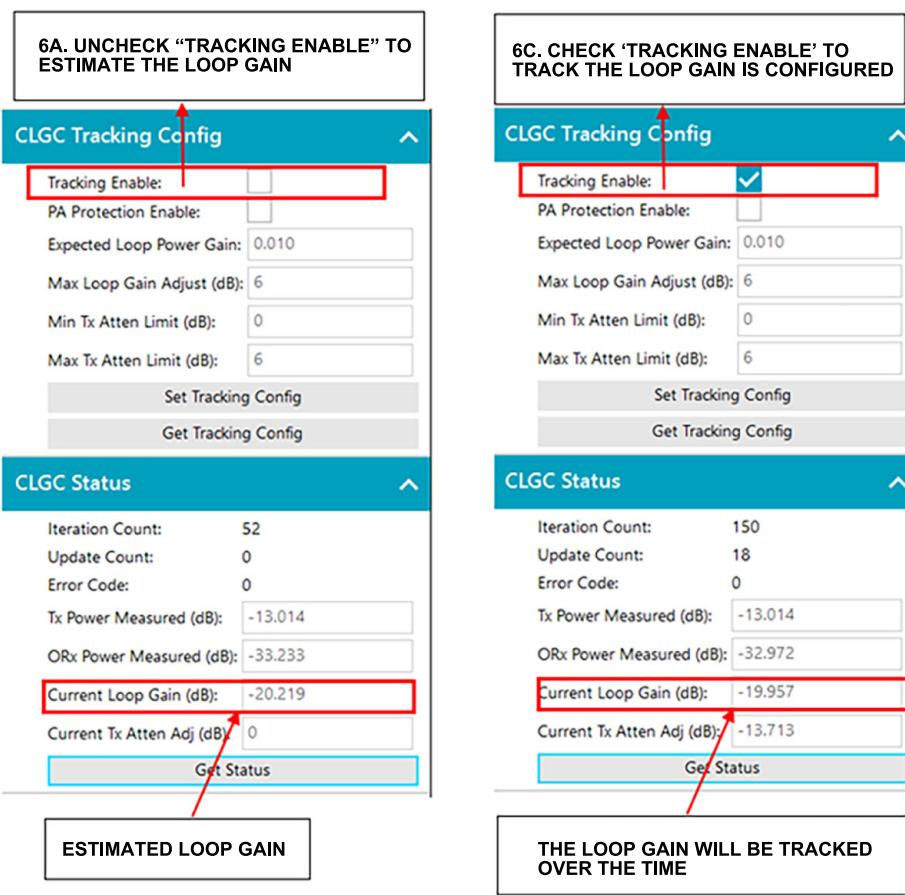

Figure 109. Enabling CLGC: Step 6a and Step 6c
- a. As shown in Figure 109, to estimate the current open loop gain, unselect the box next to **Tracking Enable**.